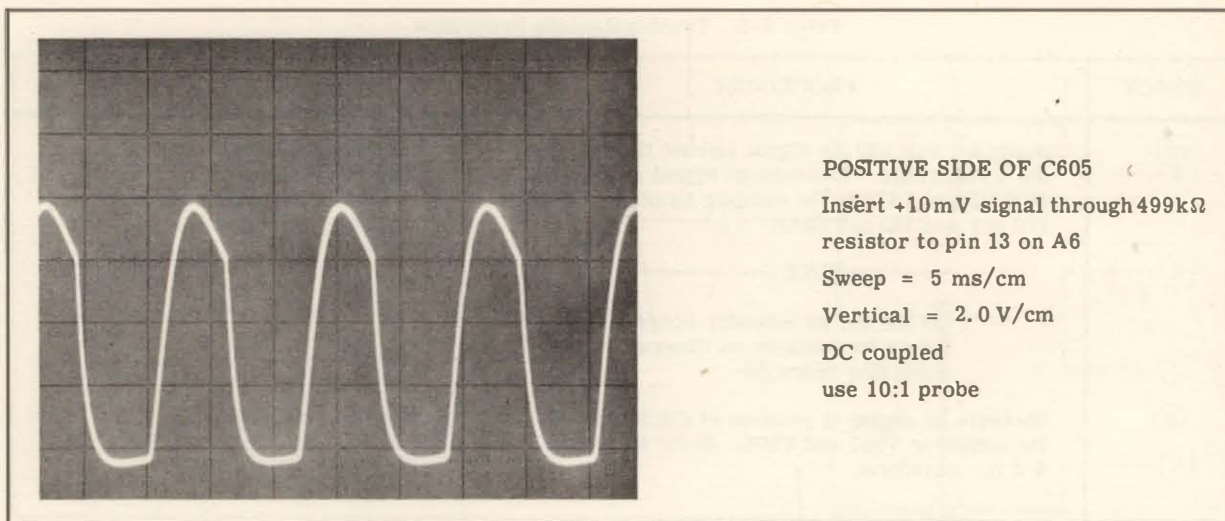

Figure 5-7. Input to Demodulator (feedback loop open)
③	Investigate meter (M1), R5, and R6 for opens.	<p>PASSES: Proceed to ⑤</p> <p>FAILS: Proceed to ⑫</p>
④	<p>Remove the input to 3400A. Unsolder red lead from pin 13 (A6) and insert a +10 mV dc signal from 738BR through a 499 kΩ resistor (-hp- Part No. 0757-0327) to pin 13. Measure ac signal at positive side of C605. Refer to Figure 5-7 for waveform.</p>